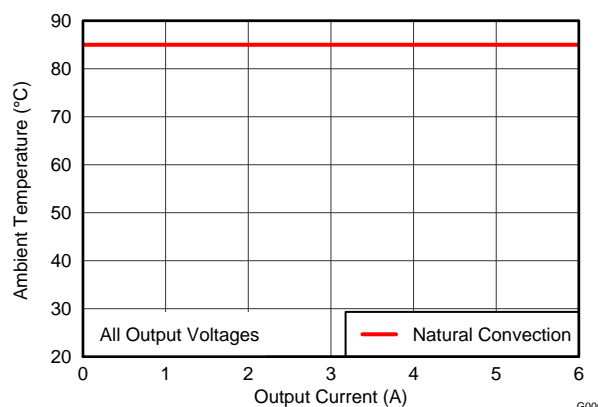

Figure 4. Safe Operating Area
- (2) The temperature derating curves represent the conditions at which internal components are at or below the manufacturer's maximum operating temperatures. Derating limits apply to devices soldered directly to a 100 mm × 100 mm double-sided PCB with 1 oz. copper. Applies to Figure 4.